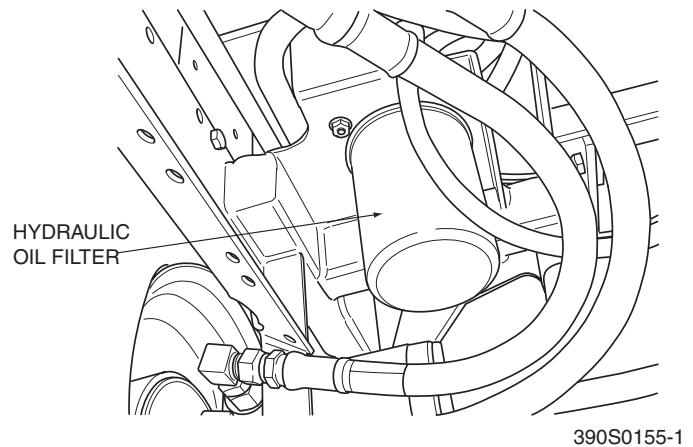

Figure 7-3. Hydraulic Oil Filter
2. Place a suitable container under the hydraulic oil filter. Remove the fill cap from the reservoir and the drain plug from the bottom of the drain tee fitting on the filter base. See Figure 7-3. Allow the fluid to drain into the container and properly discard it.
1. Remove the oil filter element and properly discard it. See Figure 7-3. Fill the new filter with clean oil and install the filter. Hand tighten only.